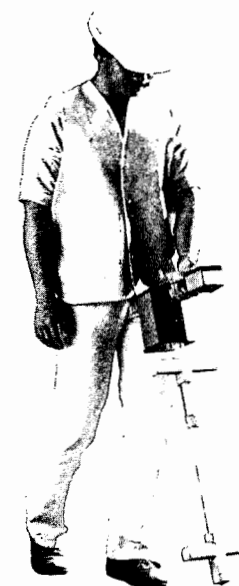

Figure 4-5: Position of Receiver for Tracing
3. Go to the search area, holding the Receiver as shown in Figure 4-5. Sweep the area, moving the Receiver from side to side.